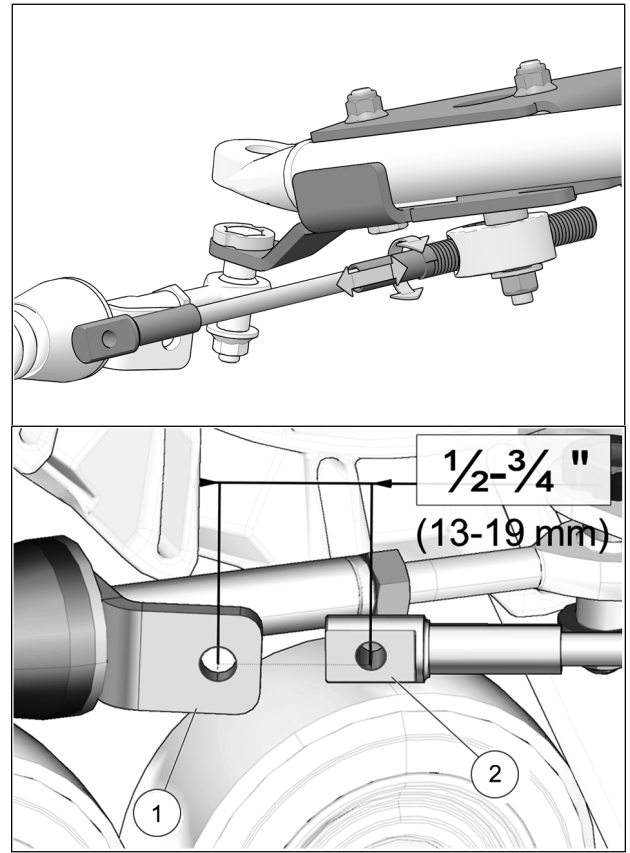

Fig. 23
12. Turn the vehicle's steering wheel to its maximum point of travel on the left. While maintaining pressure on the steering wheel, turn threaded rod to adjust length of cable so that the cable end hole (1) is located 13 to 19 mm [$\frac{1}{2}$ to $\frac{3}{4}$ in.] short of the mounting hole on the support plate (2). See Fig. 23